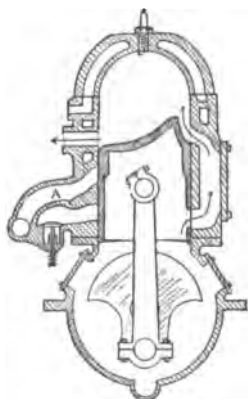
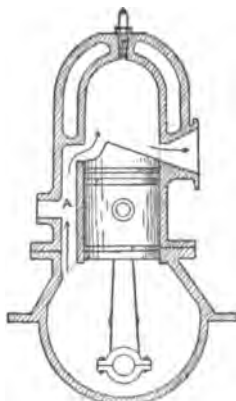

Fig. 1
Fig. 2
THE novice will often be puzzled to classify certain motors which at first sight do not appear to be like any of the types I have described. There are such a vast number of gas engines made with so many minor variations and peculiarities that it is at times hard to grasp the exact principles of some motors. In every case, however, the modern motor is really a two or four stroke engine, and the principal differences lie in the arrangement of valves, ports, or similar parts. Two-cycle motors, as already described, are usually of the two-port or three-port types, but many of the more recent designs are constructed so that either a two or three port system may be used or the two may be combined in a single motor. Such a motor is shown in Fig. 1, in which the motor starts as a two-port engine and can be speeded up and operated as a three-port motor by opening the third port (A). Many of the best so-called two-port motors are in reality a sort of combination two-and-three port engine. In these motors—a section of one of which is shown in Fig. 2—the fuel is drawn into the by-pass (A), between the base and the inlet to the cylinder. This design has many advantages over the older type with the fuel inlet in the base, but its operation is exactly the same. By placing the inlet in the by-pass the suction of the piston is increased and the by-pass is warmed by the heat of the cylinder, resulting in better vaporization.